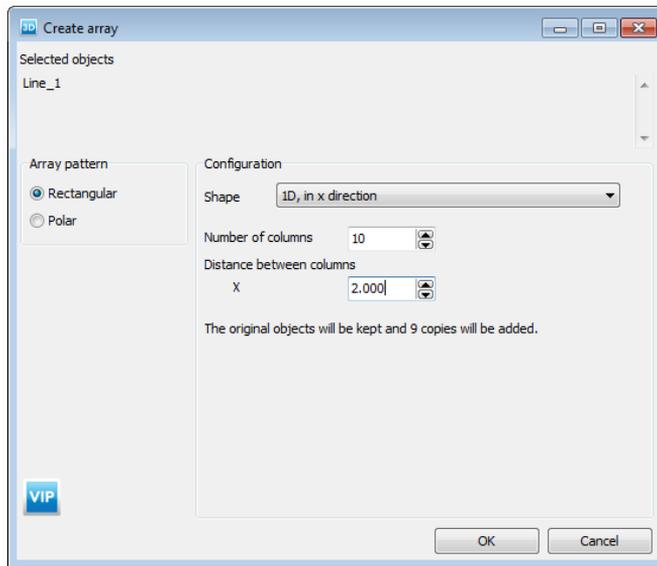

Figure 4.4 Settings of the drain pattern
- In the *Create array* window select the *1D, in x direction* in the *Shape* drop-down menu and specify the pattern as shown in Figure 4.4.